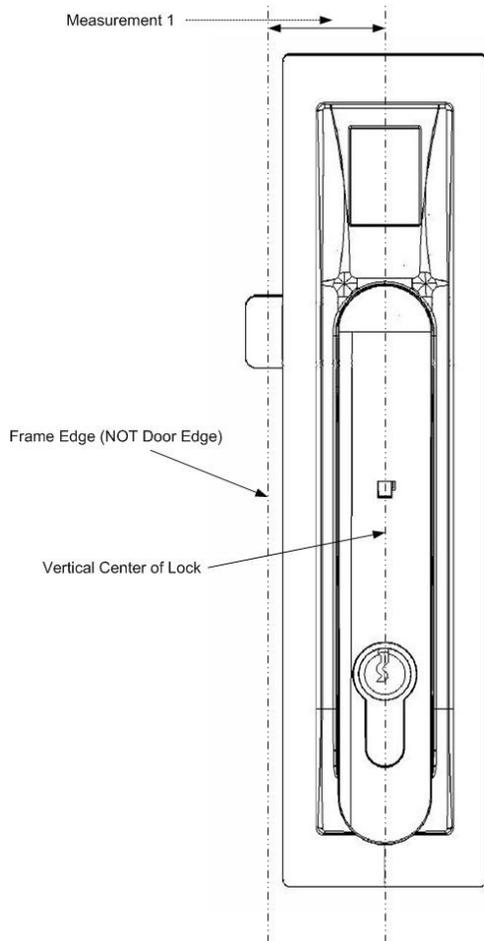
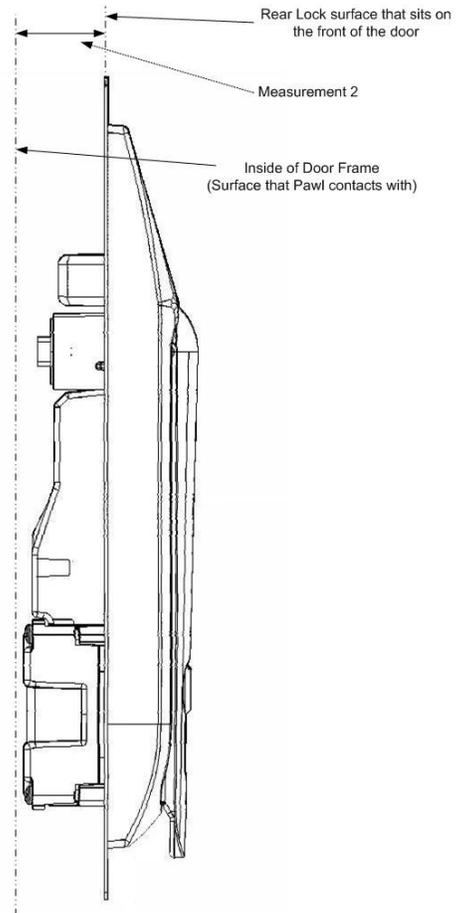

Figure 1
Figure 2
- Please obtain the measurements as show in Figure 1 and Figure 2 and contact our electromechanical lock support team on +1 912 231 8175: